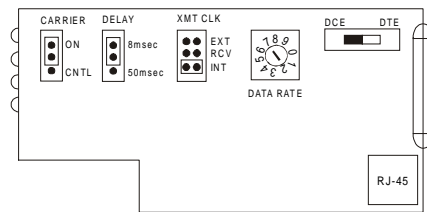

Figure 2. Strapping Diagram
2. Set the data rate to the application requirements using the rotary switch (see *Table 3 and Figure 2*).